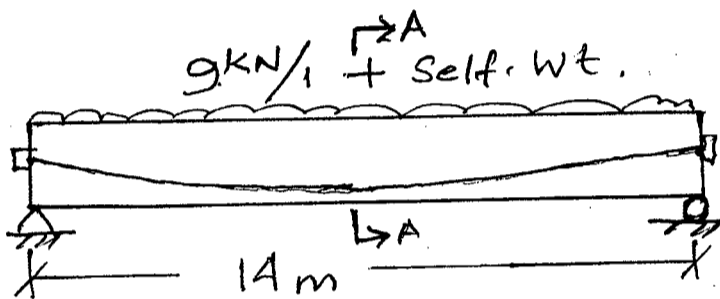

Fig. 7
7. (a) A post tensioned simple beam on a span of 14 m is shown in Fig. 7. It carries a superimposed load of 9.0 kN/m in addition to its own weight. The initial prestress in the steel is 980 MPa reducing to 840 MPa after deducting all losses but assuming no